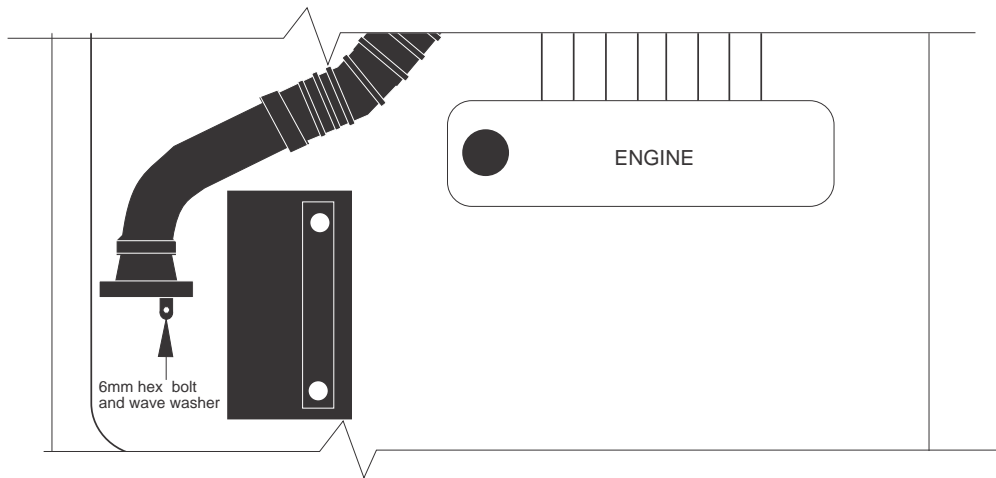

fig. 3
- 6) Install the aluminum velocity adapter / tube assembly into the stock intake hose, work the hose over the end of the tube carefully, it is a very snug fit. The bracket will line up with an existing hole that held the air box. (see fig. 3)